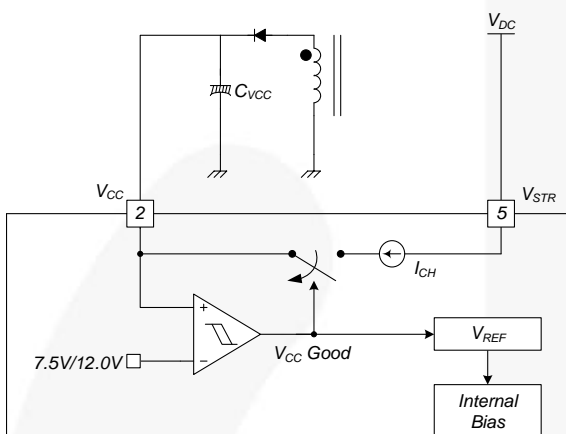

Figure 19. Startup Block
1. Startup: At startup, an internal high-voltage current source supplies the internal bias and charges the external capacitor (C_{VCC}) connected to the V_{CC} pin, as illustrated in Figure 19. When V_{CC} reaches 12 V, the FSL137MRIN begins switching and the internal high-voltage current source is disabled. Normal switching operation continues and the power is supplied from the auxiliary transformer winding unless V_{CC} goes below the stop voltage of 7.5 V.